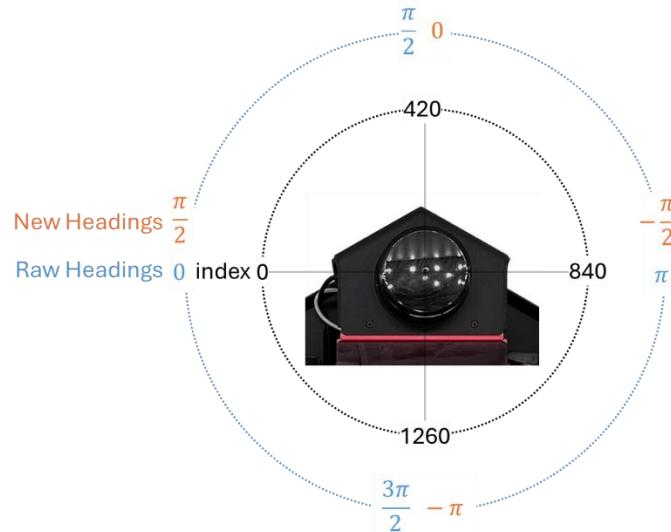

Figure 2. LiDAR measurement correction
3. Notice in `adjust_and_subsample()` under `QBPRanging()`, heading angles from the LiDAR sensor are multiplied by -1 and added to $\pi/2$. This is to correct the headings such that the angle value of 0 corresponds to the front of the QBot, as shown in Figure 2. In addition, the angles are now increasing counterclockwise, consistent with the positive convention of our reference frame. Furthermore, this function downsamples the distance and angle data, which is beneficial in the obstacle detection application as it allows for faster computation when high resolution is not necessary.